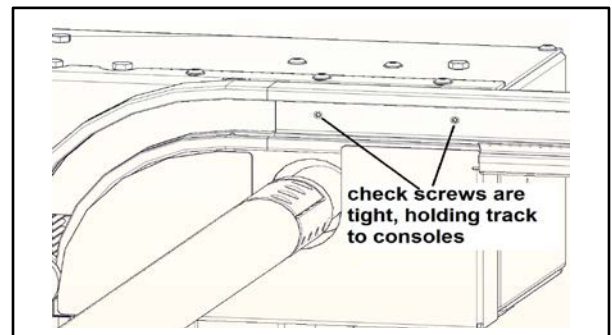

Figure 24
5. Inspect the hardware used to attach the spiral track sections to the left and right drive assemblies. Tighten the hardware as required. Replace any missing or damaged hardware. (See Figure 24.)